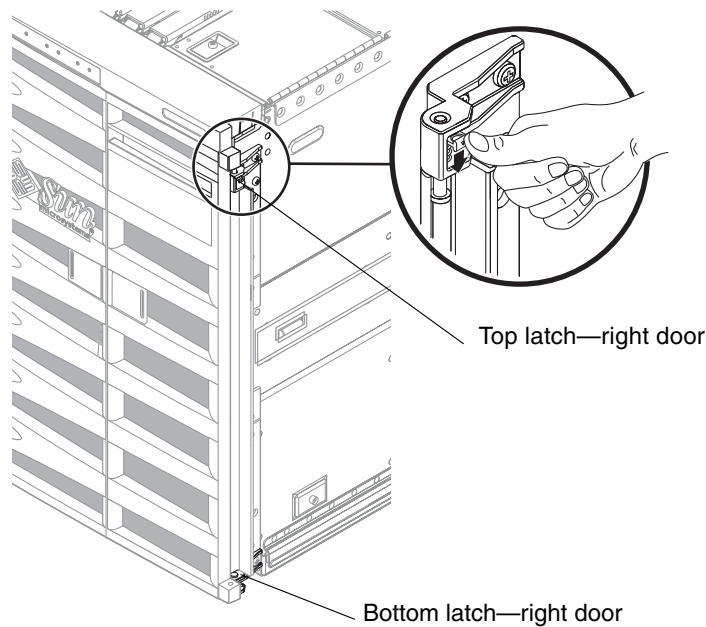

FIGURE 2-3 Front Door Latches
1. While holding the door with one hand, align the left door with the screw coming from the green latch at the bottom. Hold the green latch down in order to properly align the door with the screw (FIGURE 2-3).